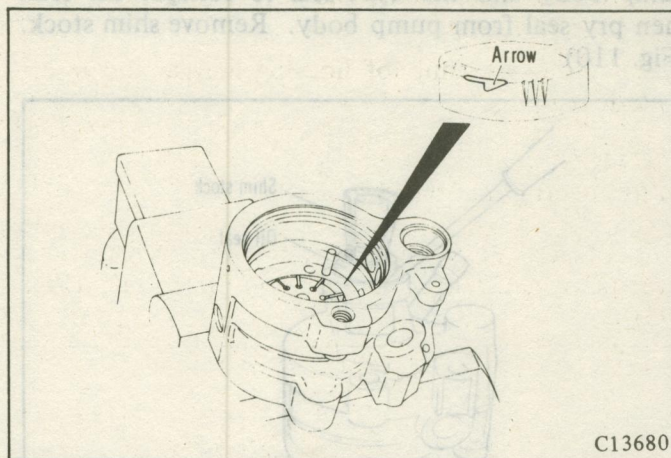

Fig. 104 Installing the Pump Ring
(5) Lubricate oil seal and drive shaft with MOPAR ATF DEXRON II (Part Number 3549660 or 4131509) or equivalent and insert drive shaft in housing, making sure thrust plate slides properly on dowel pins so as not to damage the oil seal lip.
(6) Install pump ring on dowel pins with the arrow toward rear of housing. (Fig. 104)